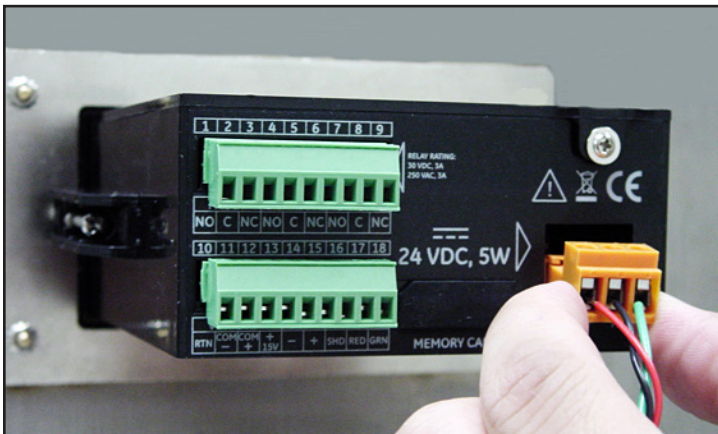

Figure 34: Reinserting the DC Power Connector
4. Reinsert the power connector into the rear panel of the **dew.IQ** as shown in Figure 34 below.